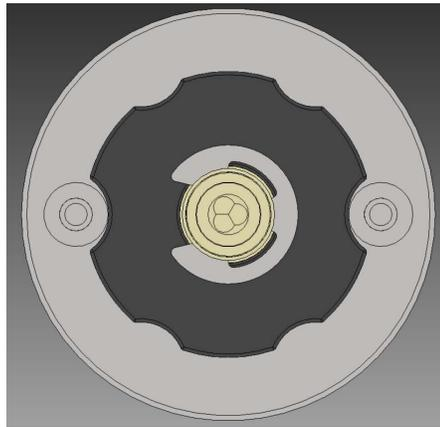

FIGURE F. 19. - KNOB ORIENTATION
8. Rotate the valve knob into a position so that the screw holes are visible through the knob fluting (see Figure F. 19.)